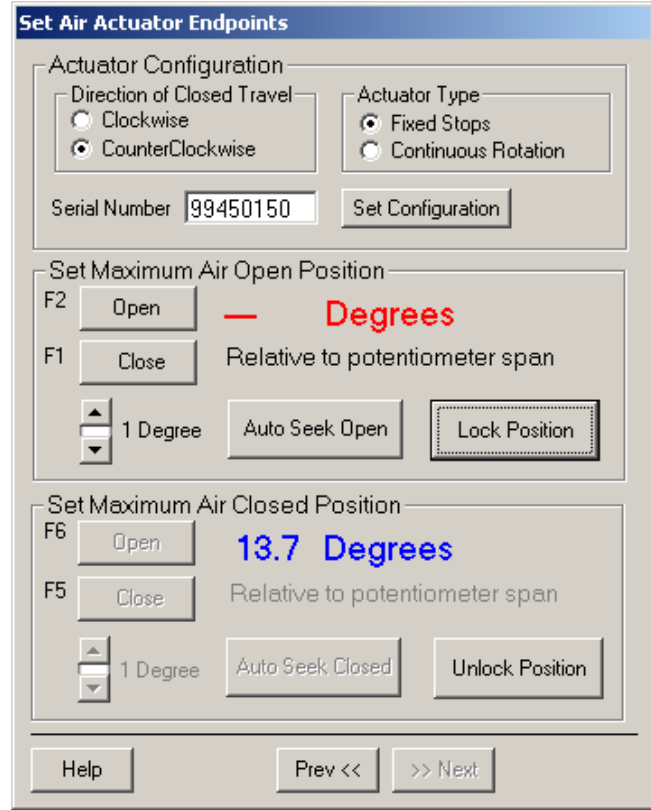

Fig. 11. Auto seek open to actuator mechanical open fixed stop.
7. Auto seek open to actuator mechanical open fixed stop. See Fig. 11.